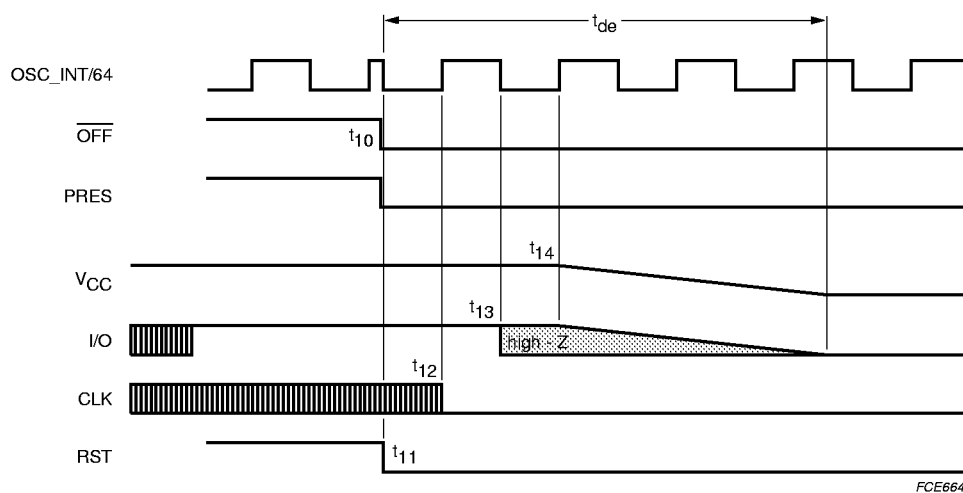

Fig. 8 Emergency deactivation sequence.
2. \overline{CMDVCC} LOW: (within a card session) then, \overline{OFF} falls LOW if the card is extracted, or if a short-circuit has occurred on V_{CC} , or if the temperature on the IC has become too high. As soon as the fault is detected, an emergency deactivation is automatically performed (see Fig.8).